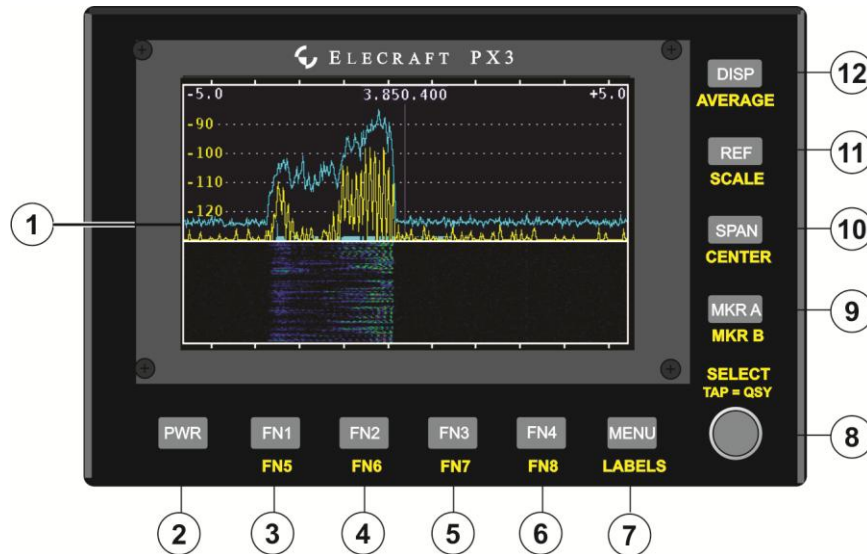

Figure 1. PX3 Front Panel.
<p>The Basics</p>	<p>⚠ TAP AND HOLD: Most PX3 switches have two functions, similar to the KX3. Tap (press briefly) to activate the function labeled on the switch. Hold (press for 1/2 second) activates the function labeled below the switch. In the text, tap functions are shown like this: DISP while a hold function is shown like this: AVERAGE. Additional typographical conventions are shown on the previous page.</p> <p>The controls and indicators shown in Figure 1 are identified by the circled numbers in the following text (e.g. ① refers to the display screen).</p> <ul style="list-style-type: none"> <li>• Apply power to the PX3 and hold PWR ② to turn it on.</li> <li>• Tap DISP ⑫ to cycle between spectrum and waterfall display modes (Page 15).</li> <li>• Activating many functions enables the SELECT knob ⑧ so you can adjust the parameter associated with the function. The current parameter value is shown on the screen ①. You can exit and save the parameter by tapping the same key a second time, even for hold functions.</li> <li>• For hold functions, you can also hold the key a second time to exit parameter-entry mode. Holding the four keys along the right edge of the front panel ⑨,⑩,⑪,⑫, a second time de-activates the function itself. For example, holding CENTER ⑩ a second time returns the display center frequency to the transceiver frequency and holding MKR B ⑨ a second time turns off marker B.</li> </ul>